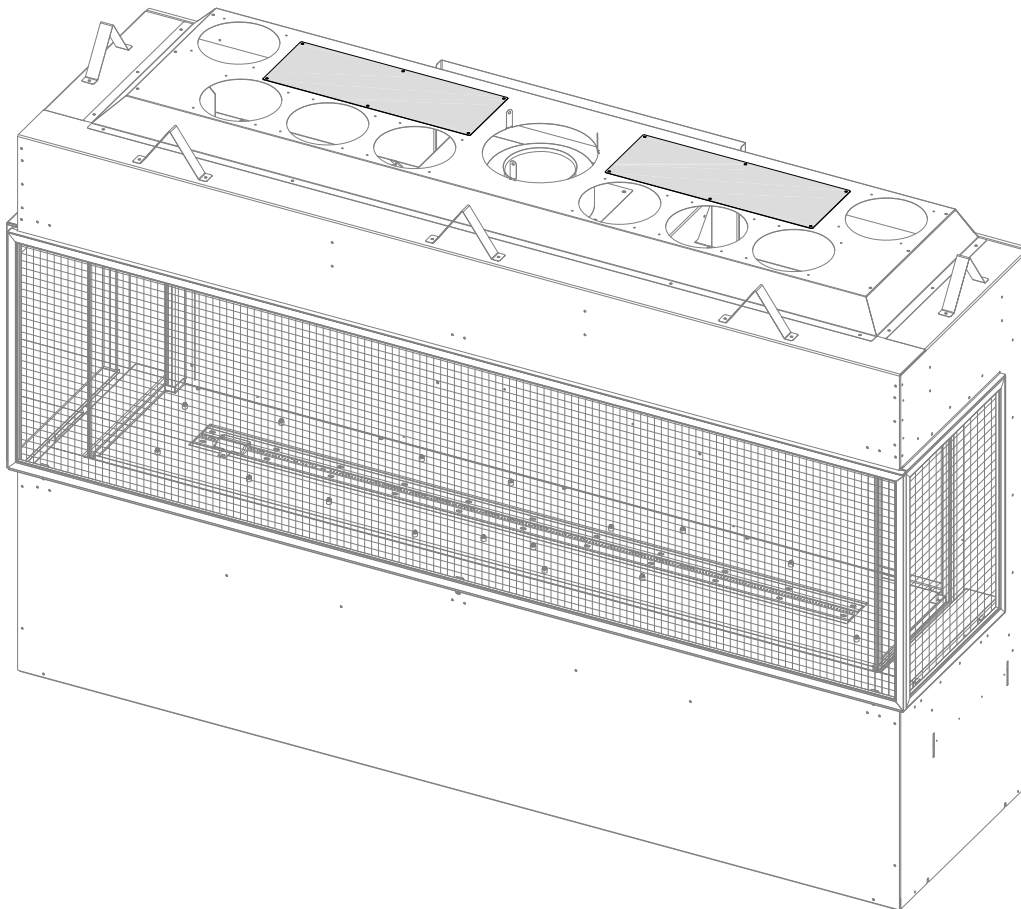

Figure 2.10 - Vented Cavity Cover Plate Location
1. The fireplace ships ready for the vented cavity installation scenario shown in Section 2.3.4. Leave the rectangle cover plates installed on the fireplace, as shown in Figure 2.10.